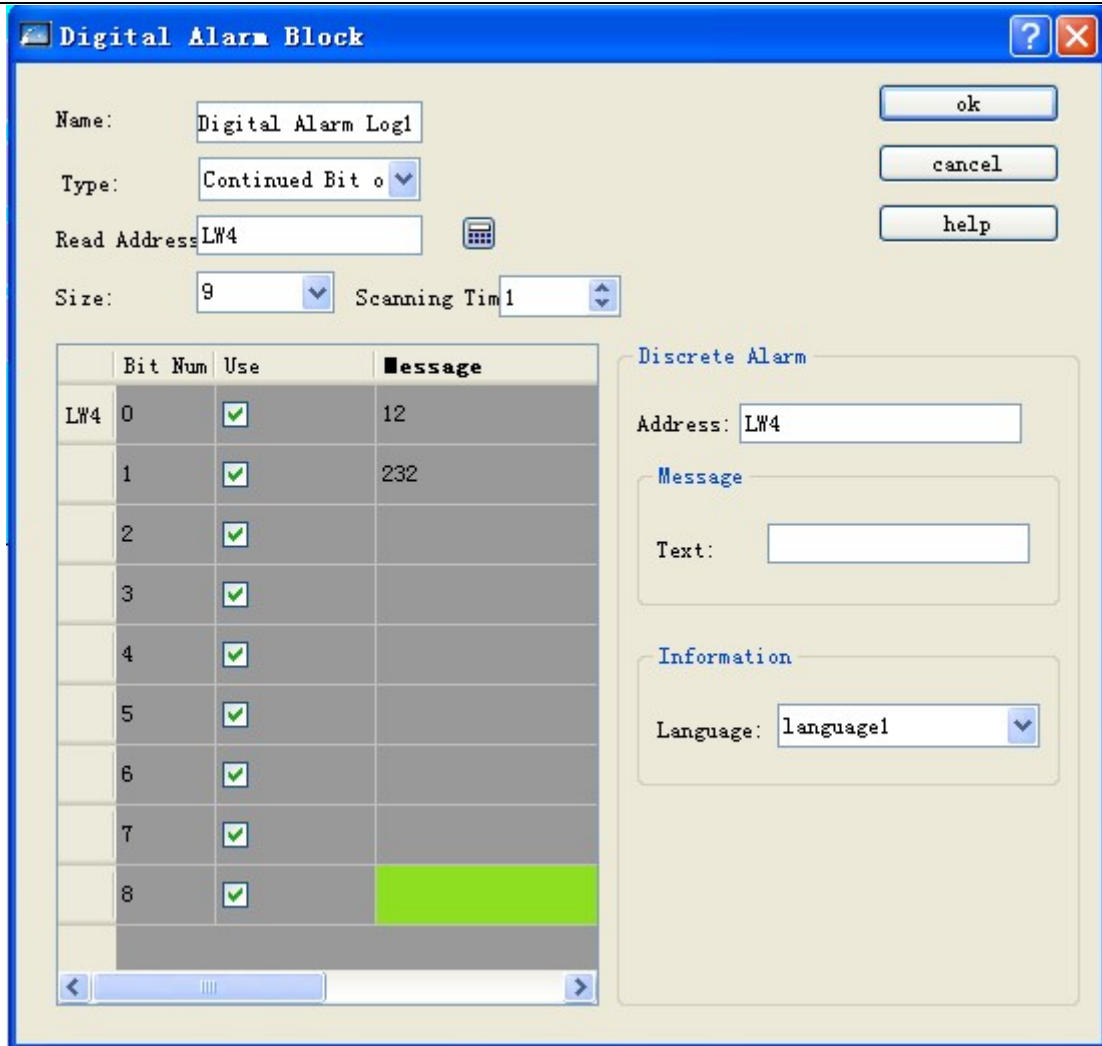
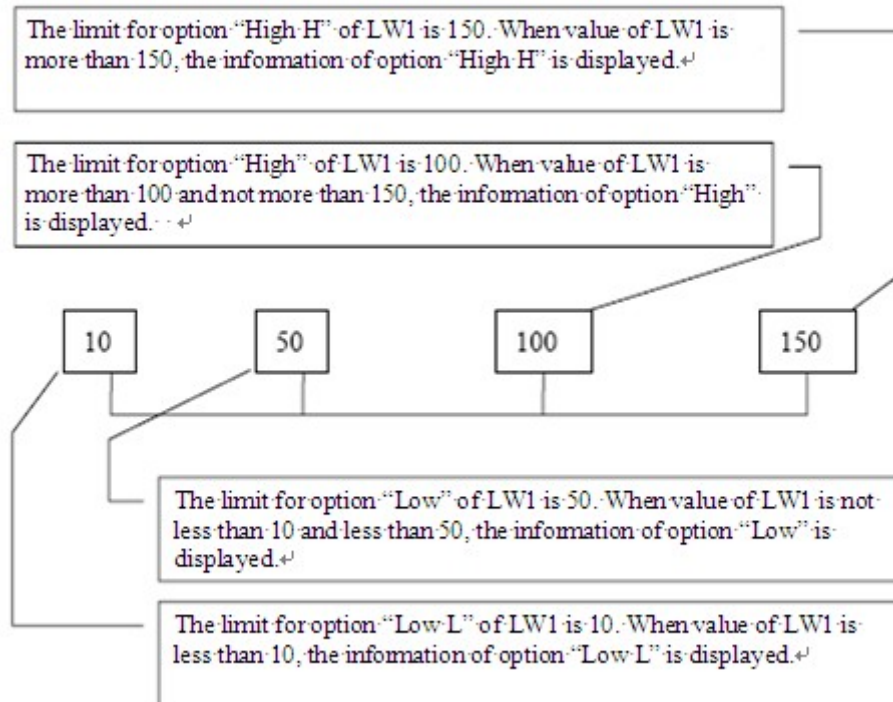

Figure 7-24 The dialog box of digit alarm at “word value”
Figure 7-27 Area division of four address values of LW1
If the type is “word value”, it is shown as Figure 7-24.
- Click every item in list box. Move mouse to right "Limit" and enter one data into it. Then, move mouse to the edit box "Text" in right module "Message" and enter the corresponding text information in the box, i.e. alarm content. Suppose the information set here (i.e. alarm content) is as shown in figure 7-24. From this figure, we can see that each address value can be divided into 4 areas (i.e. data subarea of alarm address): low low, low, high and high high. In following content, we take address LW1 for example to describe the meaning of these 4 areas (all the option "Use" for four options of address LW1 is selected), as shown in figure 7-27.